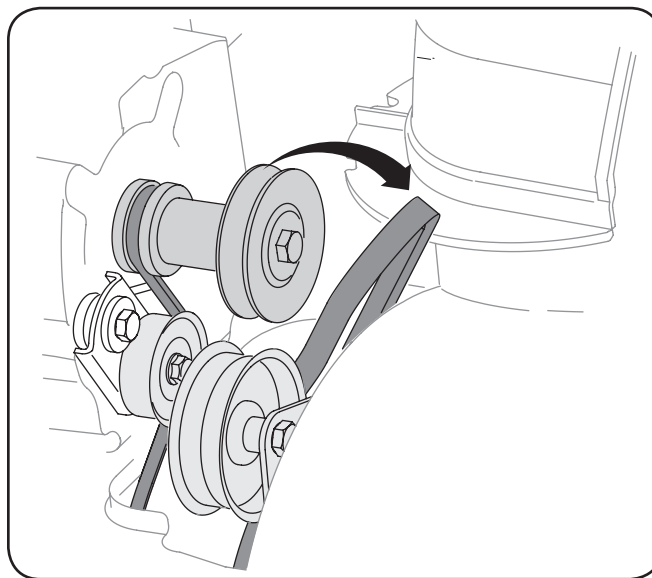

Figure 7-4
4. Roll the auger belt off the engine pulley. See Figure 7-4.
3. Remove the frame cover from the underside of the snow thrower by removing four self-tapping screws which secure it. See Figure 7-4.